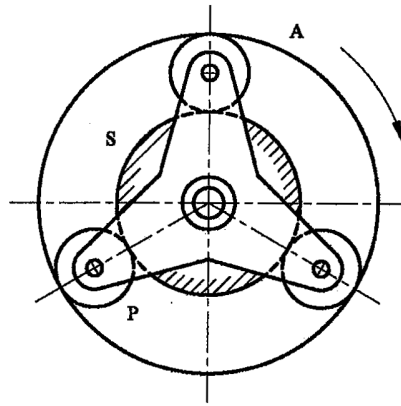

Figure 3
- Q4. a) In the figure 3, annulus A is rotating at 300 rpm about an axis of the fixed wheel S, which has 80 teeth. The three-armed spider is moving at 180 rpm. Determine the number of teeth required on the wheel P.